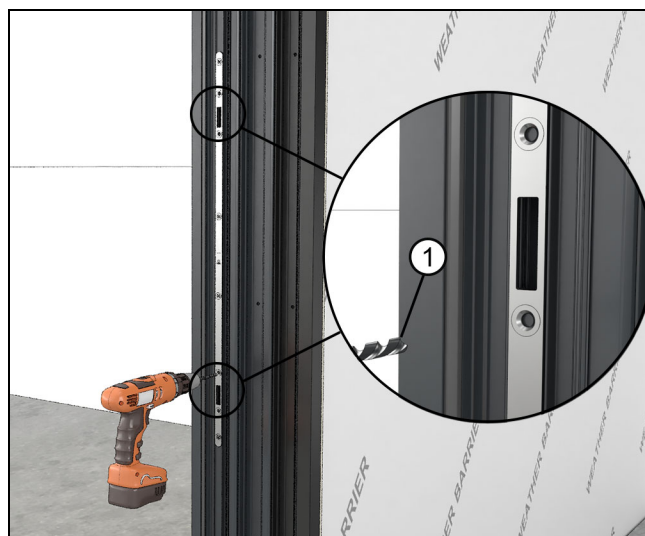

Figure 76
11. On uni-directional units, pre-drill through the open holes in the strike plate (above and below each strike) with a 3/16"(5) drill bit. See Figure 76.